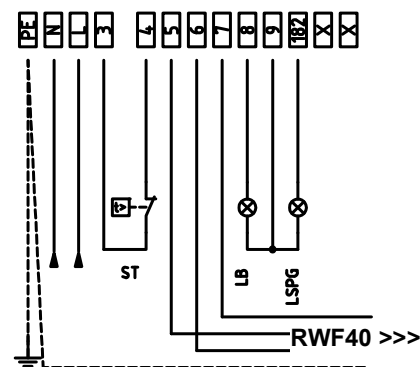

Fig. 27: Fully modulating burners
- 3 In case of modulating burners, the 5, 6 and 7 terminals, on the **MA** teminal block, are already connected to the regulating modulator (mod. **RWF40**). A 4-pole plug coming out from the electrical panel is provided for the temperature and pressure probes connections (see Fig. 27).